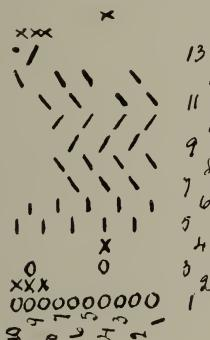

Fig. 2.
**Fig. 2* is the draft for the same.